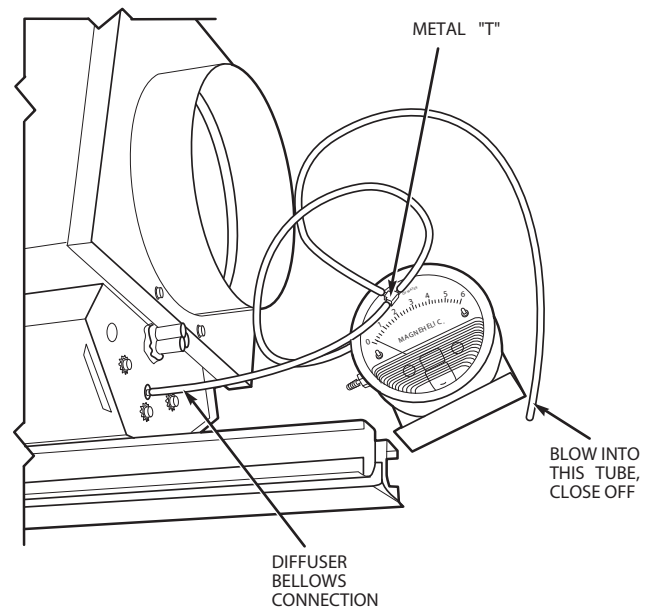

Fig. 43 — Checking Unit Bellows for Leaks
4. Remove thermostat/volume controller assembly. Attach Magnehelic gage to bellows connection with rubber tube. (See Fig. 43.) Blow into tube until unit shuts off. Hold tube so that no air escapes. Dial on Magnehelic gage dropping or the opening of the diffuser slot discharging air will indicate a bellows leak. If after approximately 30 seconds no leak is detected, the bellows are satisfactory.